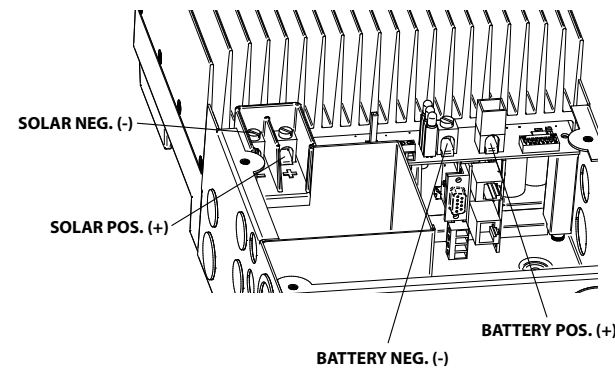

Figure 3-14. Power Terminal Locations
Connect the four (4) power conductors shown in Figure 3-14 as described in the following steps:
8. Connect the battery (-) wire to the battery (-) terminal on the TriStar MPPT 600V. See Figure 3-14.
9. Replace cover, and secure with four (4) screws.